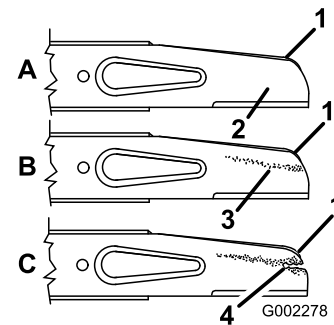

Figure 23
2. Remove the blade bolt, the lock washer, the accelerator, and the blade (Figure 23).